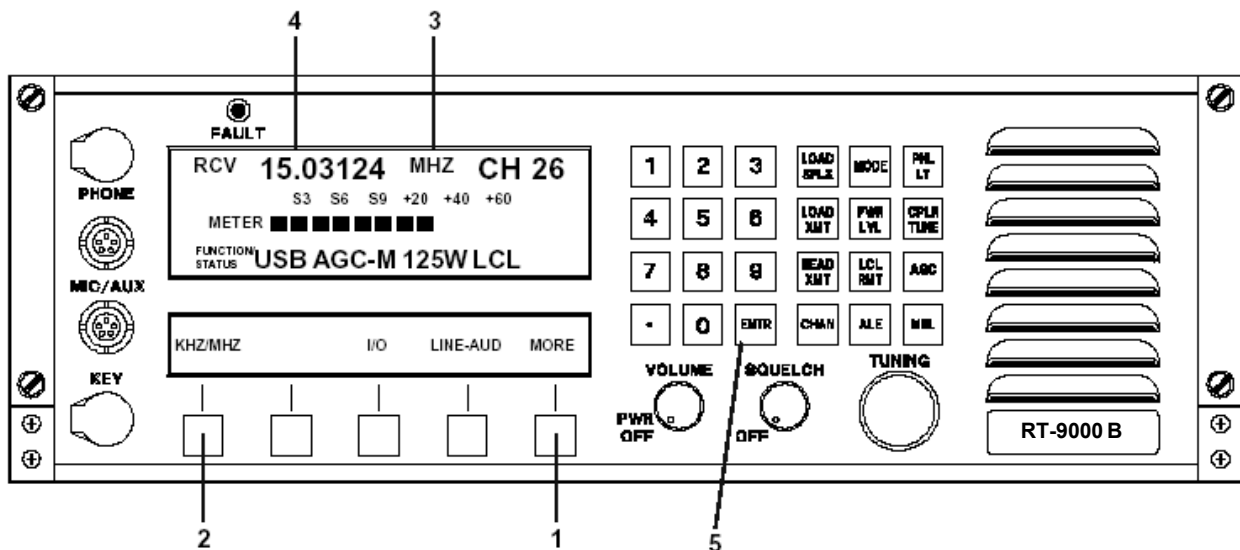

Figure 7.3.3.8 Main Menu containing MHz – kHz Frequency Display Selection
Depressing the 'kHz/MHz' Feature key at **2** will cause the Operating Frequency units in the Operational Display at **3** to toggle between 'MHz' (MegaHertz) and 'kHz' (kilohertz). As an example, in Figure 7.3.3.8 note if 'KHz' units is selected that the decimal point at **4** will move three (3) digits to the right and the 'MHz' indication shown at **3** will change to 'KHz'.